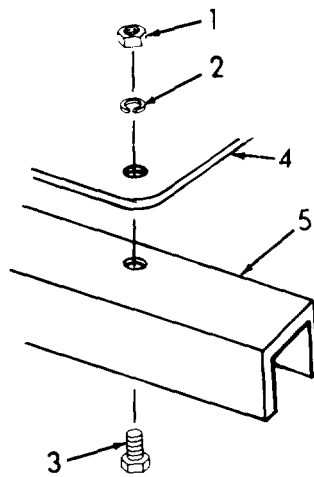

Figure 4-6. Electric Motor Removal.
(1) Remove the centrifugal pump as per paragraph 4-4.
(2) Remove the power cable as per paragraph 4-3.1.
(3) Refer to figure 4-6. Remove nuts (1), washers (2) and screws (3) that attach motor (4) to frame (5).
Refer to figure 4-6. Repeat the removal procedure in reverse sequence.